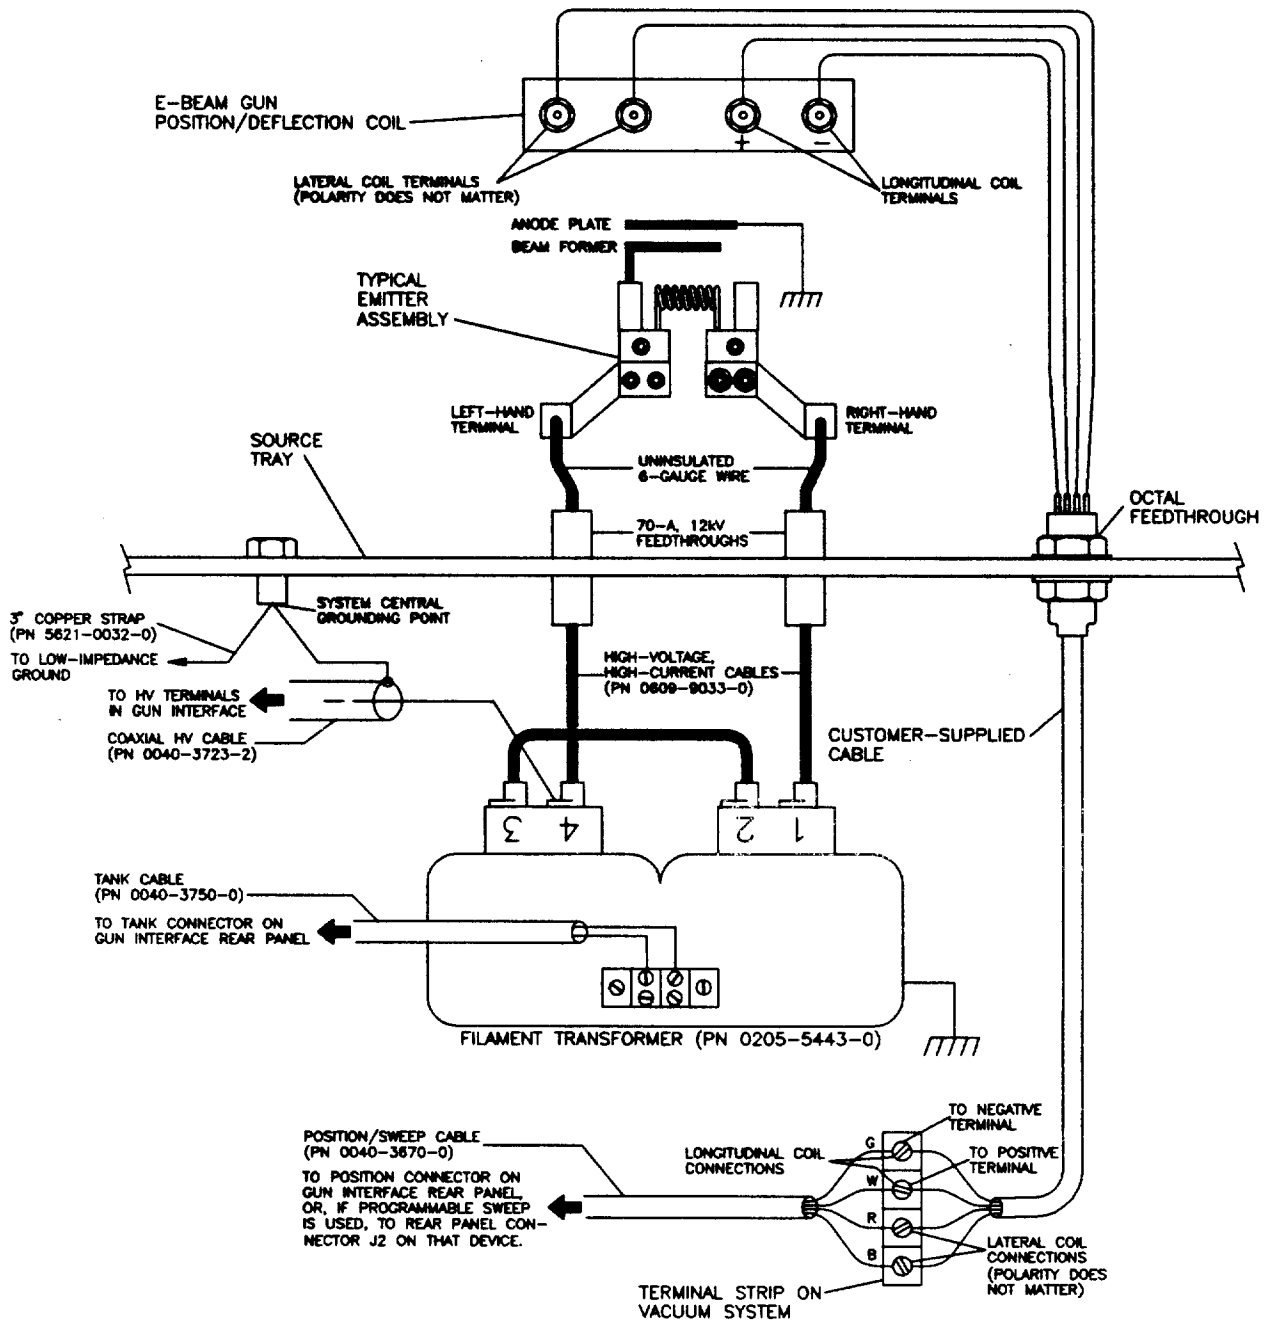

Figure 2-2. Output Connections at Vacuum Cubicle
To promote safe, dependable power supply operation, follow the guidelines below and refer to Figure 2-2 in making connections to the electron beam source.
Follow the procedure described below and refer to Figure 2-2 in mounting the gun filament transformer(s) in the vacuum cubicle(s). Each transformer should be mounted as close as possible to the high-voltage feedthroughs, and connections between the secondary terminals and the feedthroughs should be kept as short as is practical.
- 2 Determine which high-voltage feedthrough is connected to the emitter assembly terminal that is attached to the beam former (see Figure 2-2). This is the left-hand terminal when the gun is viewed from behind the emitter assembly.